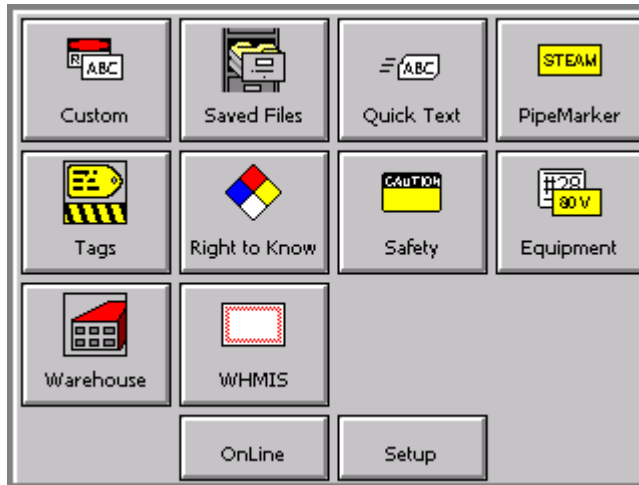

Figure 6-1. The Main Menu screen
**QuickText** helps you create plain text labels very quickly. When you choose **QuickText** on the **Main Menu** screen (Figure 6-1), all you have to do to create a label is enter your text.
1. Choose **QuickText** from the **Main Menu** screen (Figure 6-1 on page 6-2).